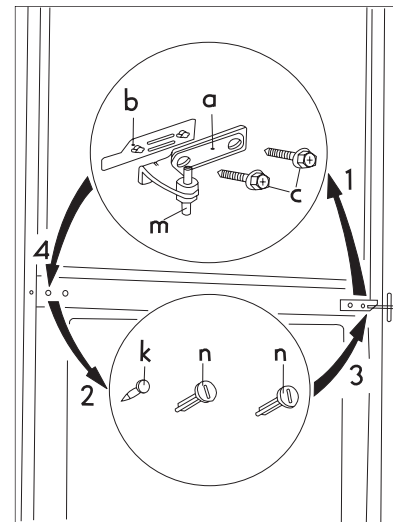

fig. 2.
- Open the doors and dismount the double door hinge (a,b) by removing the screws (2 pieces) (c). (fig.2)
- Take off the double door hinge (a,b,c) by gradually removing it from the cabinet, slightly tilting both doors. Do not forget to remove the plastic spacer (b) under the hinge. (fig.2)
- Remove the blanking pins (3 pieces) (n,k) of the double door holder on the left side and put them to the other side. (fig.2)
- Fit the pin of the double door hinge (m) into the left drill of the freezer door. (fig.2)